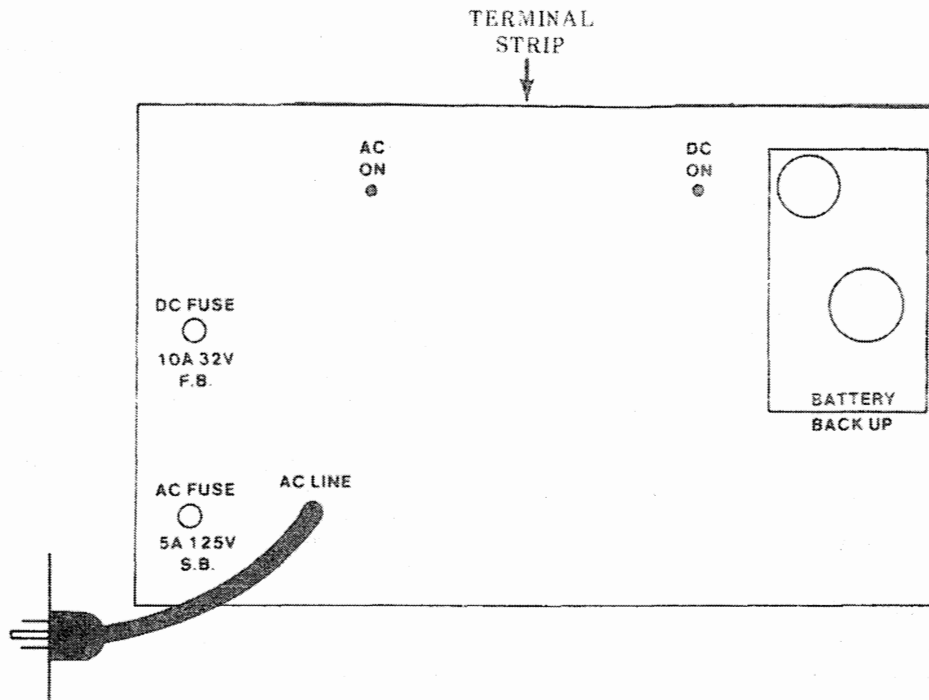

FIGURE 8
02.28 Press in the battery override button (Figure 8). If it catches and stays in, press it again to cause it to release and protrude out of the control panel. Out is off, and the position of the button must be in for the EPSA to operate normally.
EPSA. Remove the decal from the kit, peel the backing off, and place it on the control panel (Figure 8).